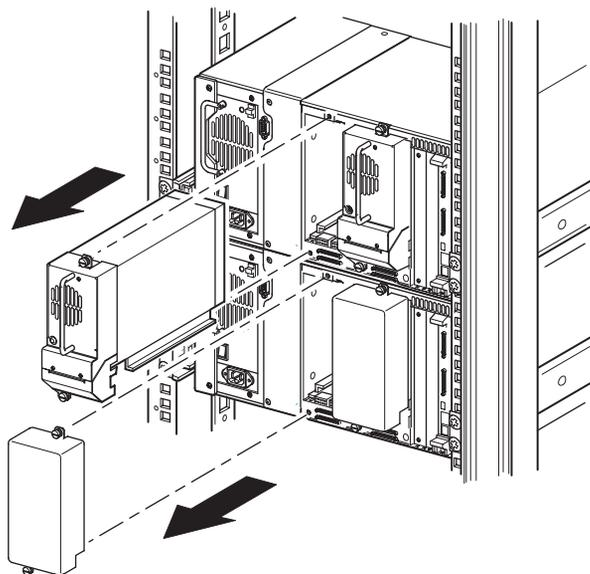

Figure 7: Accessing drive bay 1
2. Remove the blank panel or drive shoe assembly 1 from the bay adjacent to the PTM cover plate opening (see Figure 7).